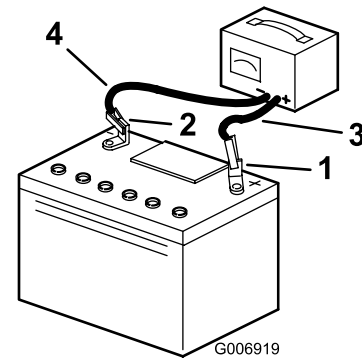

Figure 8
7. Charge the battery for 10 to 15 minutes at 25 to 30 amps or 30 minutes at 4 to 6 amps (Figure 8). **Do not overcharge the battery.**
8. When the battery is fully charged, unplug the charger from the electrical outlet, then disconnect the charger leads from the battery posts (Figure 8).